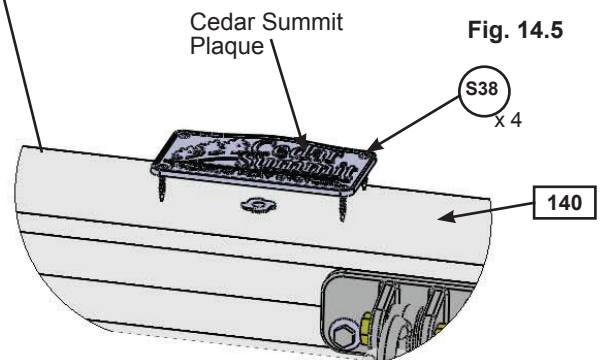

Fig. 14.5
D: Attach Cedar Summit Plaque to centre of (140) Engineered SW Beam (over top of t-nut) using 4 (S38) #7 x 1-1/8" Pan Screws. (fig. 14.5)